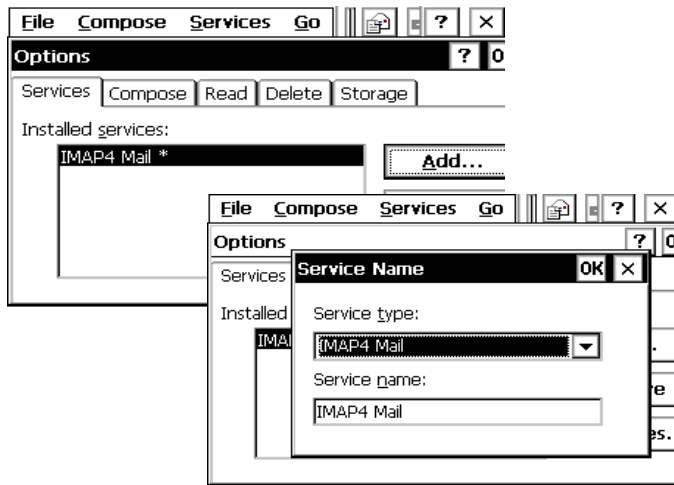

Figure 4-7. Options Dialog Box – Service Panel
2. Tap **Services ▶ Options**. The *Options* dialog box displays (Figure 4-7 on page 4-6).
- On the **Services** tab, click **Add** (Figure 4-7). The *Service Name* dialog box displays (Figure 4-7). Select or enter the following information and press **OK**. The *IMAP4 Mail Service Definition* dialog box displays (Figure 4-8 on page 4-7).
8. Choose any of the optional settings, and then click **Finish**. The **Mail Service Setup** wizard closes and returns to the *Options* dialog box (Figure 4-7 on page 4-6).
9. Close the *Options* dialog box to return to the **Inbox** window (Figure 4-7 on page 4-6).